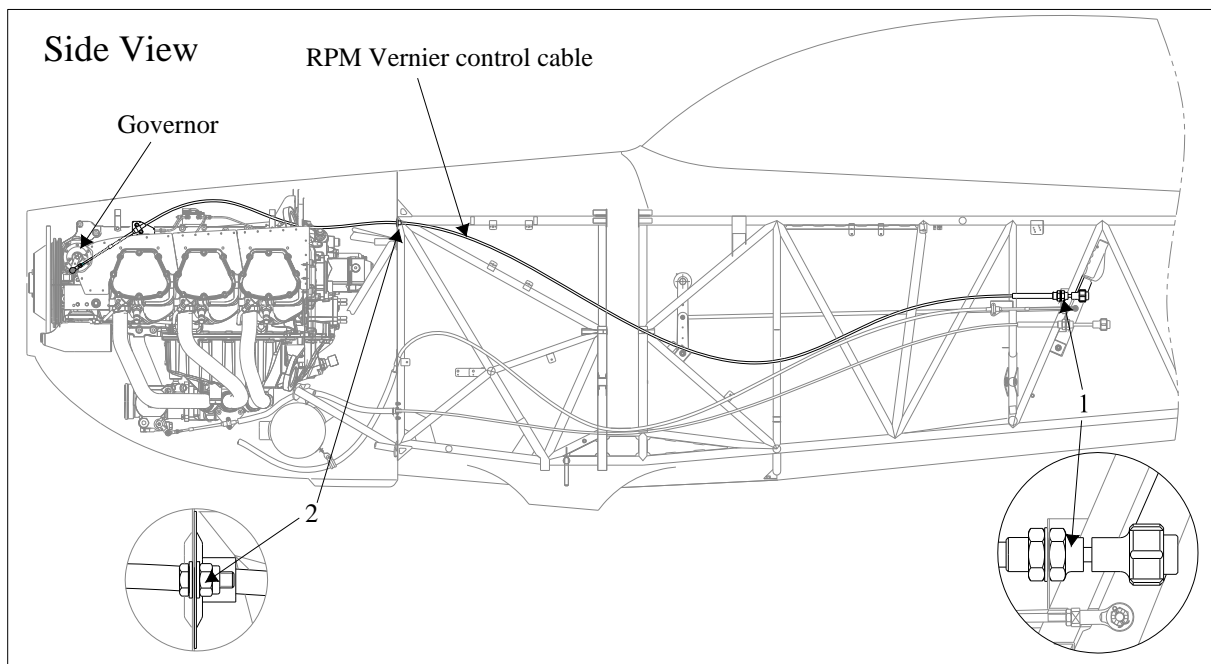
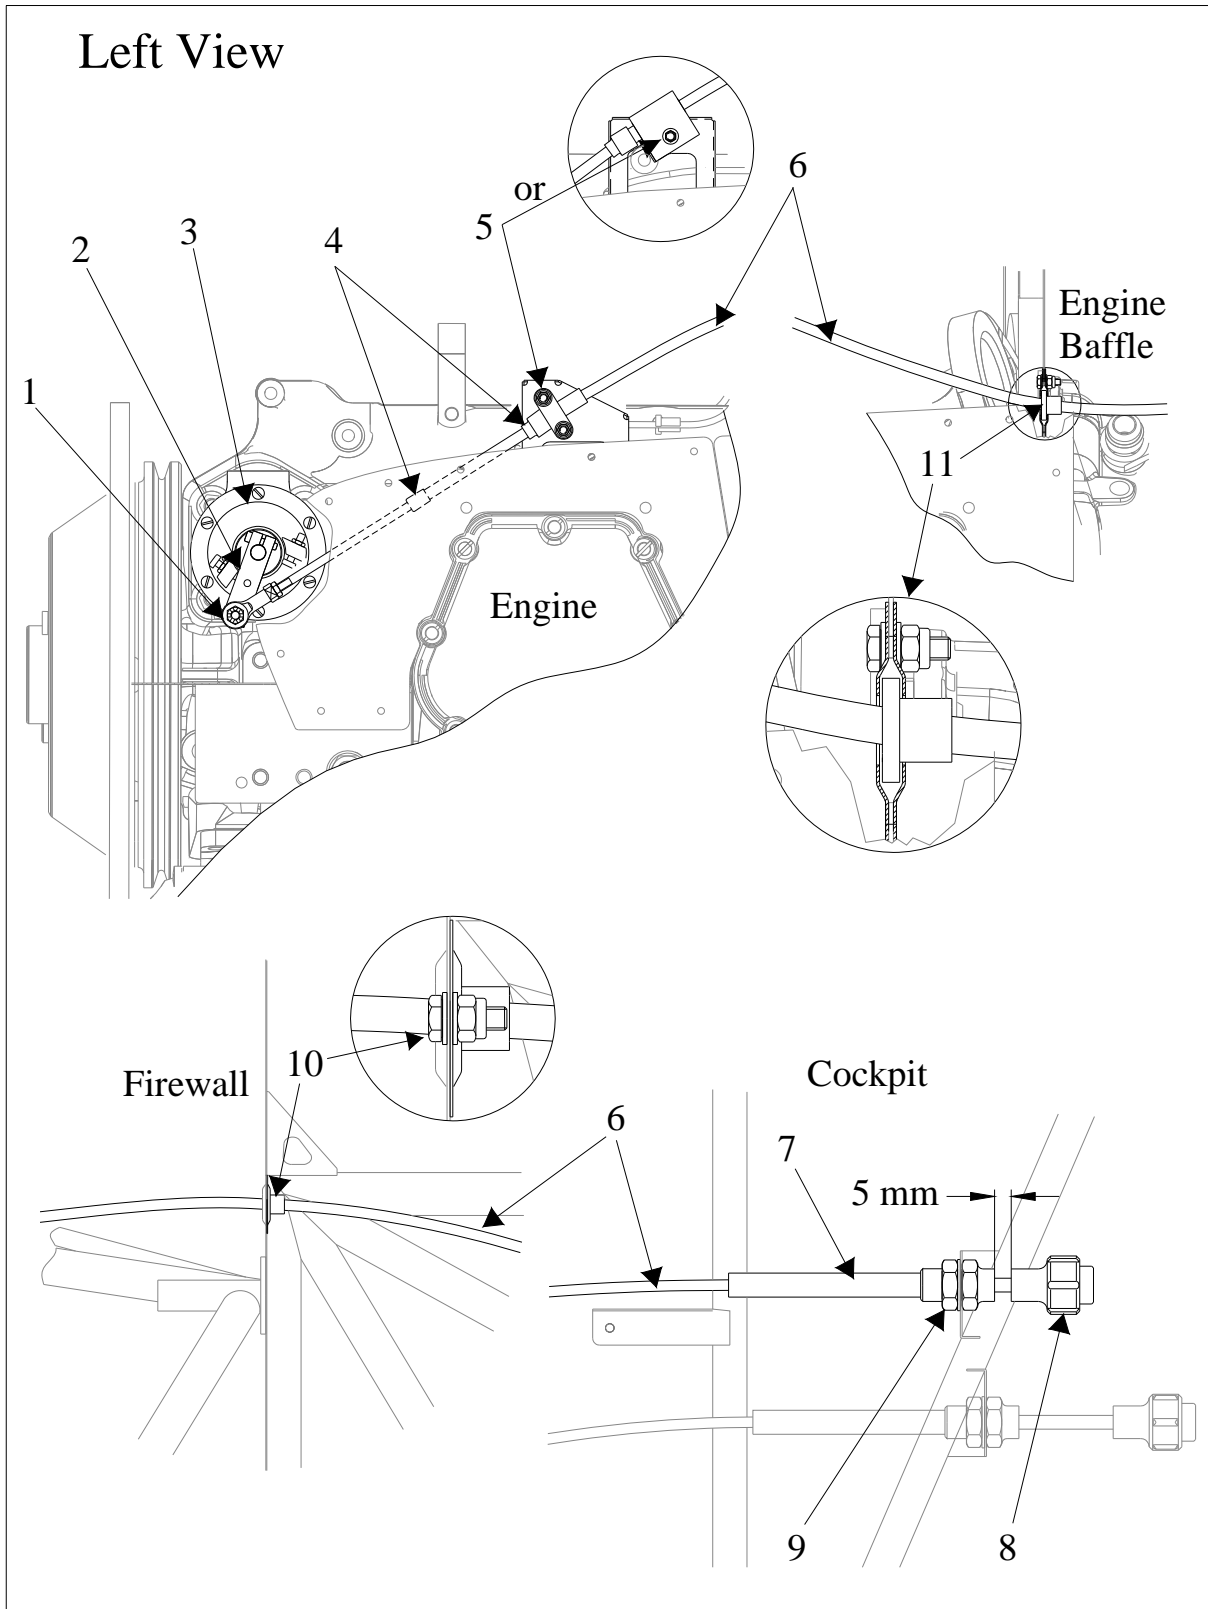

Figure 1
Figure 2
The propeller blade pitch change is conducted by a governor (refer to Figure 1). Once an engine rotational speed is selected it will be held constant independent of airspeed or power variations.
The governor itself is actuated via a vernier control cable ending on the left side of the rear cockpit (blue control knob; 1, Figure 1 & 8, Figure 2). This cable is routed on the left side of the fuselage, penetrates the firewall, the rear engine baffles and is then routed to the governor. The cable is attached at its front end to the engine by a clamp block and in the cockpit area to the steel tube structure by self-clinching plastic tiedown straps. The RPM vernier control unit is mounted to a fuselage bracket. The firewall and engine baffle penetrations are covered with clamp sheets. The firewall penetration (2, Figure 1) is additionally sealed with firewall sealant (see Chapter 51-30-04).
- 4 Remove cotter pin, castle nut, washers and bolt from the rod end (1, Figure 2) to governor control lever (2) attachment.
- 5 Loosen counter nut and remove the rod end (1) from the vernier control cable (6).
- 6 Remove rod end counter nut and vernier control cable protective swivel and wiper seal (4).
- 7 Remove clamp block (5) attachment bolt(s).
- 8 Remove clamp block from the vernier control cable (6).
- 9 Remove 2 bolts of the clamp sheet attachment positioned at the rear engine baffle break through (11). Disconnect both clamp sheets and contained plastic guidance from the engine baffle.
- 10 Remove 2 bolts of the clamp sheet attachment positioned at the firewall break through (10). Disconnect clamp sheet and contained plastic guidance from the rear side of the firewall.
- 12 Remove attachment nut (9) and washer of the vernier control unit (7).
- 14 Pull complete vernier control cable (6) aft to remove from aircraft. Secure clamp sheets.